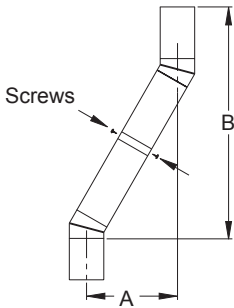

Figure 9 - Elbow Offset
Continue to assemble chimney sections as outlined above, making sure that both the inner and outer pipe sections are locked together. When installing double wall snap-lock chimney together, it is important to assure the joint between the chimney sections is locked. Check by pulling chimney upward after locking. The chimney will not come apart if properly locked. It is not necessary to add screws to keep the chimney together (exception - see Figure 9, page 10).
4. All pipe connections between the offset and return must be secured with two screws on the outer pipe only (see Figure 9, page 10). Do not penetrate the inner stainless.